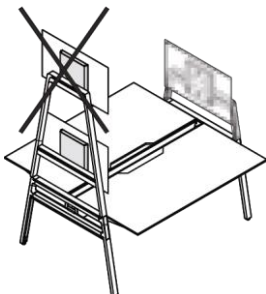

Figure 28 Monitor bracket, impermissible attachment
- Two monitor brackets on one arch attachment (see Figure 28).